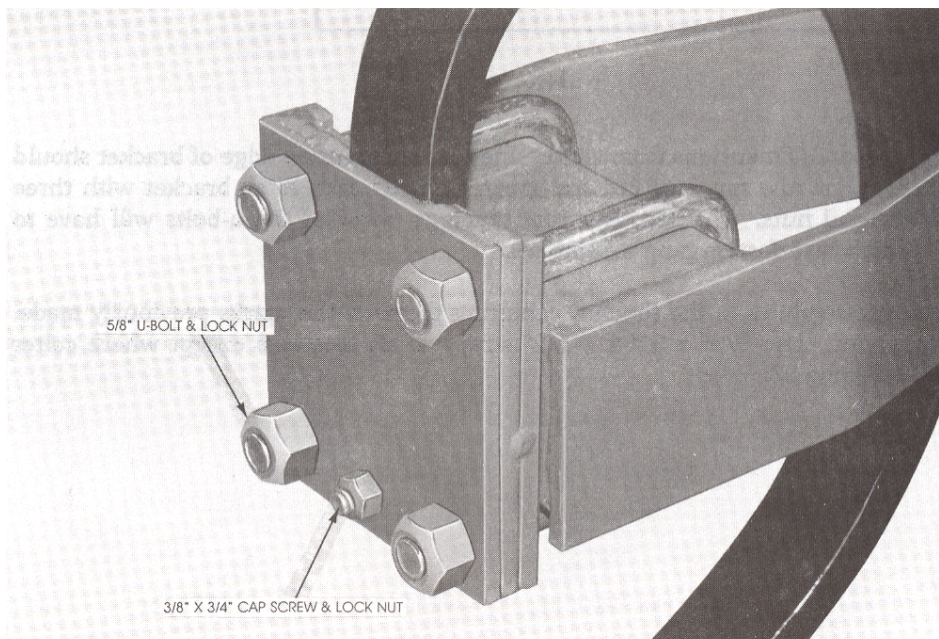

FIGURE 16
13. In each shank clamp, assemble a 3/8" x 3/4" cap screw with a lock nut. This bolt head fits in the lowest shank hole to serve as an index. Assemble desired sweeps on shanks. Install clamps and shanks as shown in Figure 16.
9. In each shank clamp, assemble a 3/8" x 3/4" cap screw with a lock nut. This bolt head fits in the lowest shank hole to serve as an index. Assemble desired sweeps on shanks. Install clamps and shanks as shown in Figure 16 on page 19.